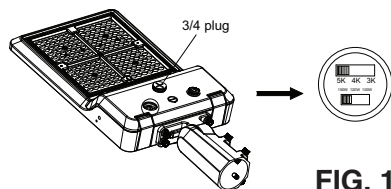

FIG. 1
1. Remove the 3/4 NPT plug and adjust the switch to the desired CCT and power settings (see **Fig. 1**).